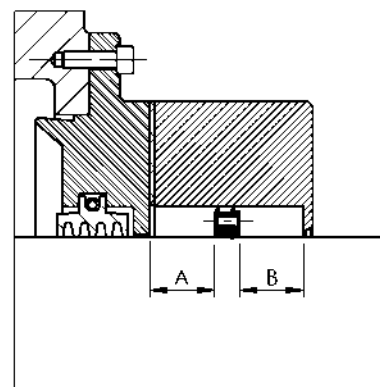

Fig. 64
*The longitudinal displacement (end-play) must be smaller than A + B dimension (See fig. 64)*